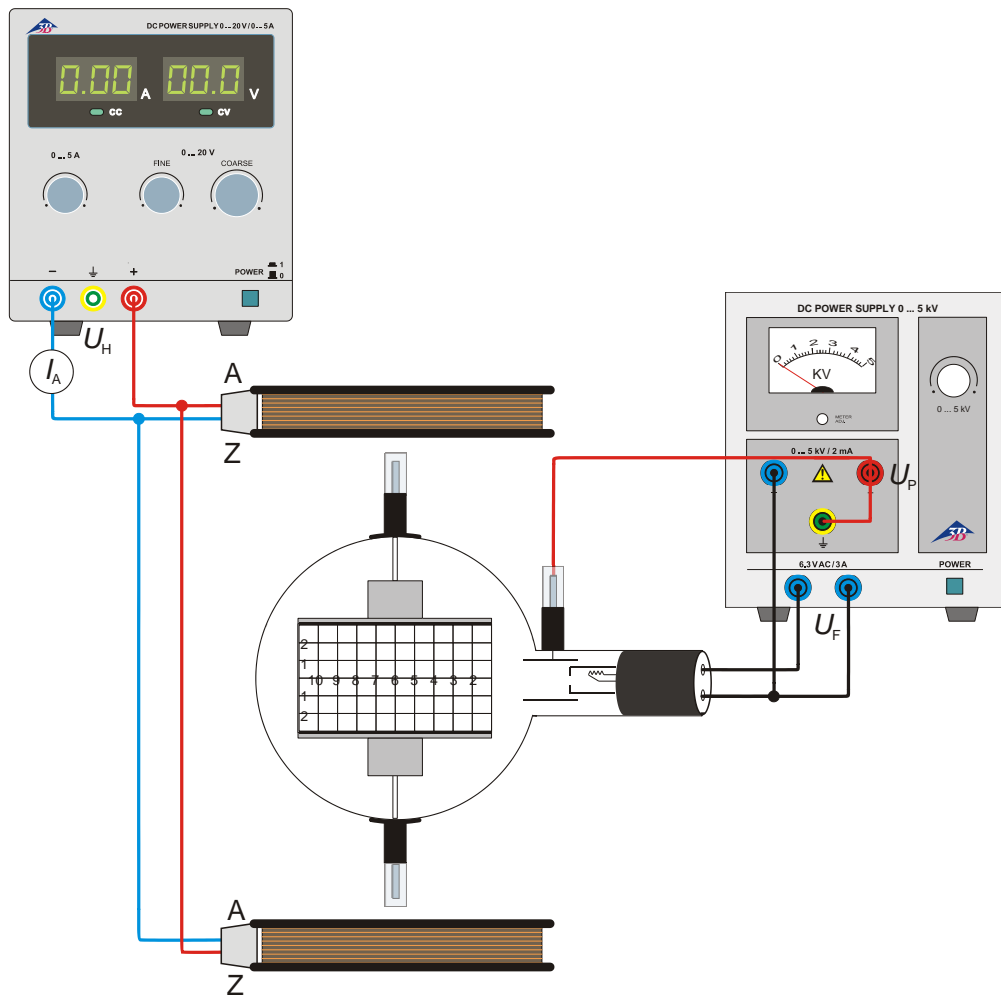

Fig. 2 Magnetic deflection
- Set up the tube as in Fig. 2. Connect the minus-pole of the anode voltage to the 4-mm socket marked with a minus.
- Set up the experiment as in Fig 2. The velocity is dependent on the anode voltage  $U_A$  such that: